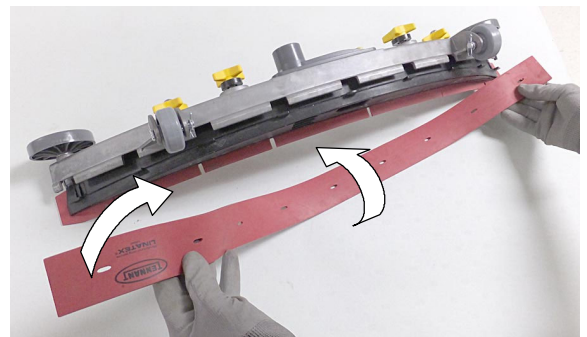

FIG. 94
- Rotate the rear blade to a new wiping edge (Figure 94). Make sure to align the slots in the blade with retainer tabs.